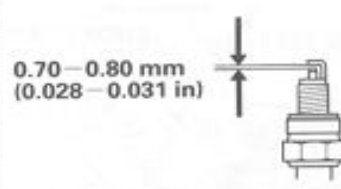

Fig. 24
- 3) Measure the spark plug clearance with a feeler, The clearance should be 0.7~0.8mm. If adjustment is necessary, bend the side electrode carefully. (Fig.24) .